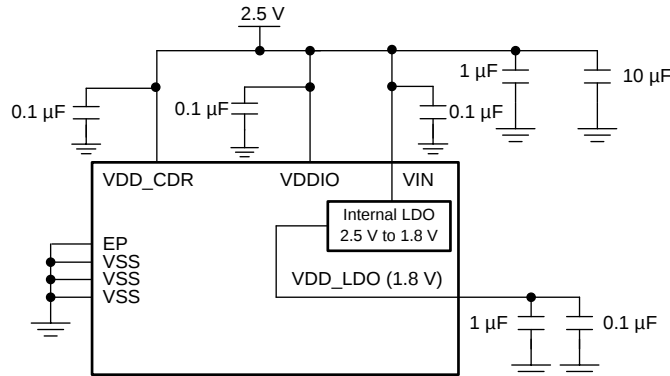
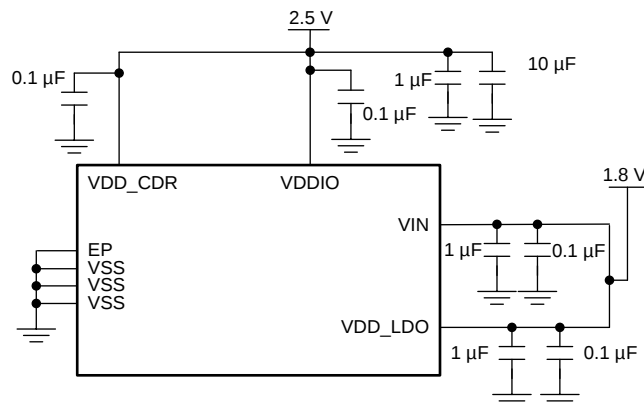

Figure 27. Typical Connection for Single 2.5 V Supply
Figure 28. Typical Connection for Dual 2.5 V and 1.8 V Supply
The LMH1226 is pin compatible with LMH1219 (12G UHD cable equalizer with integrated reclocker). Both LMH1219 and LMH1226 devices support Single Supply Mode and Dual Supply Mode as shown in 図 27 and 図 28, respectively.
- **Single Supply Mode (2.5 V):** This mode offers ease of use, with the internal circuitry receiving power from the on-chip 1.8 V regulator. In this mode, 2.5 V is applied to VDD_CDR, VIN, and VDDIO. See Figure 27 for more details.
- **Dual Supply Mode (2.5 V and 1.8 V):** This mode provides lower power consumption. In this mode, 1.8 V is connected to both VIN and VDD_LDO. VDD_CDR, and VDDIO are powered from a 2.5 V supply. See Figure 28 for more details.